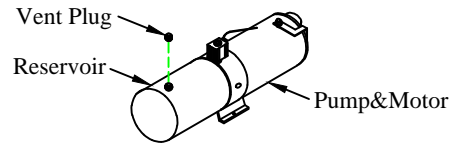

Figure 18: Vent plug.
7. **Install** the vent plug provided into the pump reservoir (Figure 18).